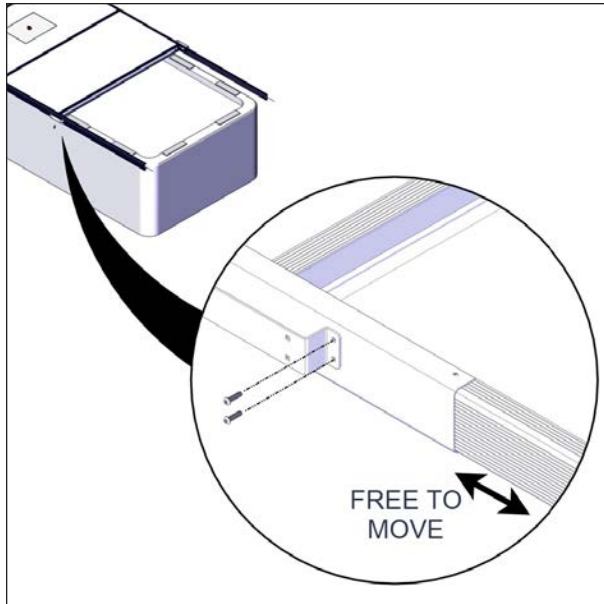

FIGURE 38: SCREW INSTALLATION
15. Install two 1/4" x 1" hexagonal round head screws on the post mount bracket, see Figure 38. DO NOT tighten those screws yet. The side extension C-channel must be free to move in its slots.